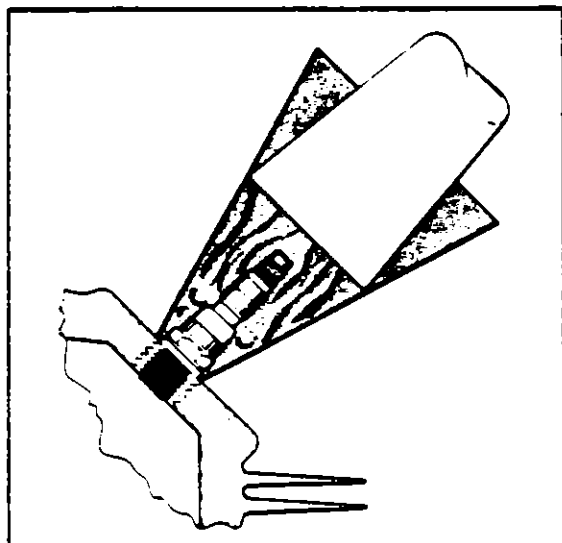

Figure 8-27. Removing Frozen Spark Plug
d. Removal of seized spark plugs in the cylinder may be accomplished by application of liquid carbon dioxide by a Conical metal funnel adapter with a hole at the apex just large enough to accommodate the funnel of a CO₂ bottle. (Refer to Figure 8-27.) When a seized spark plug cannot be removed by normal means, the funnel adapter is placed over and around the spark plug. Place the funnel of the CO₂ bottle inside the funnel adapter and release the carbon